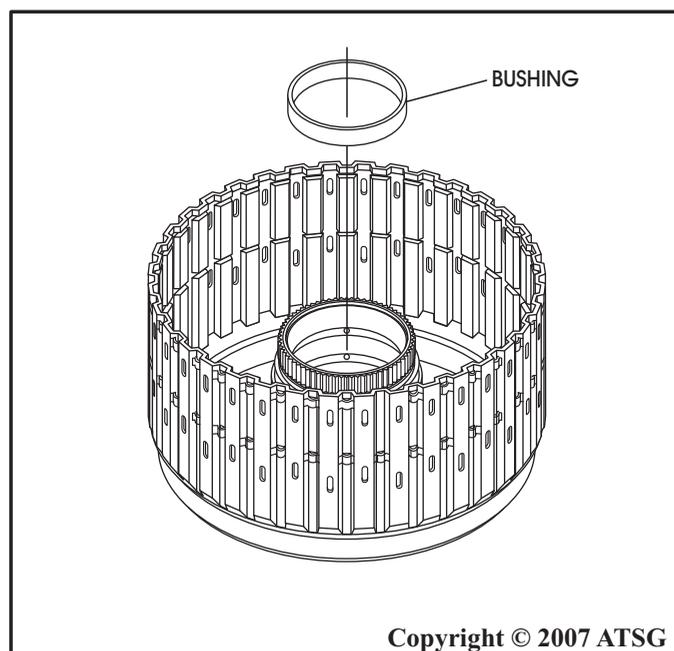

Figure 91
7. Install new bushing as necessary using proper bushing driver, as shown in Figure 91.